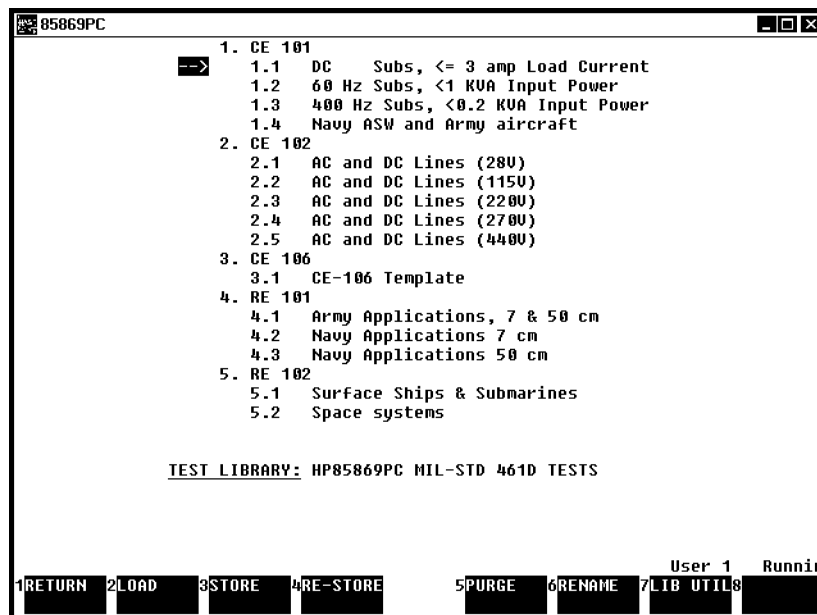
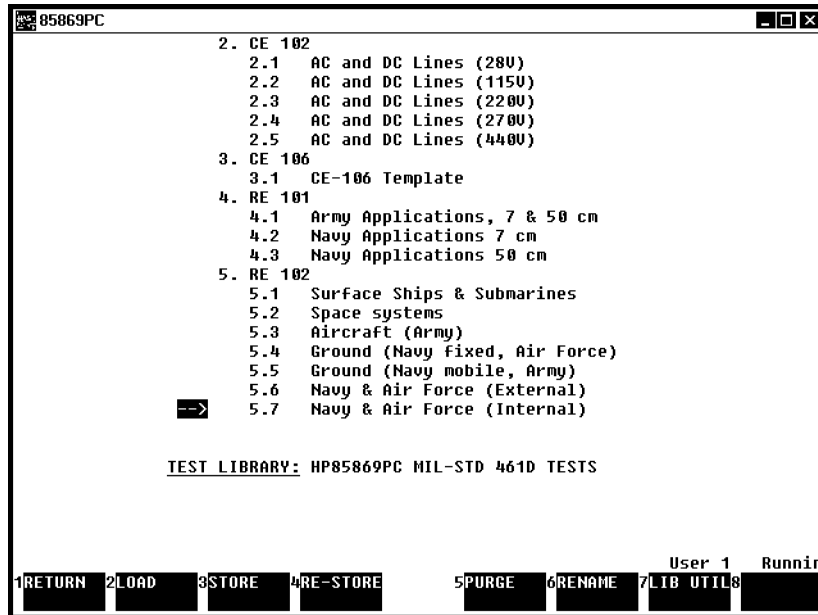

Figure 6-9. MIL-STD 461D Tests Part 1
Figure 6-10. MIL-STD 461D Tests Part 2
- MIL-STD 461D Tests shown in Figure 6-9 and Figure 6-10